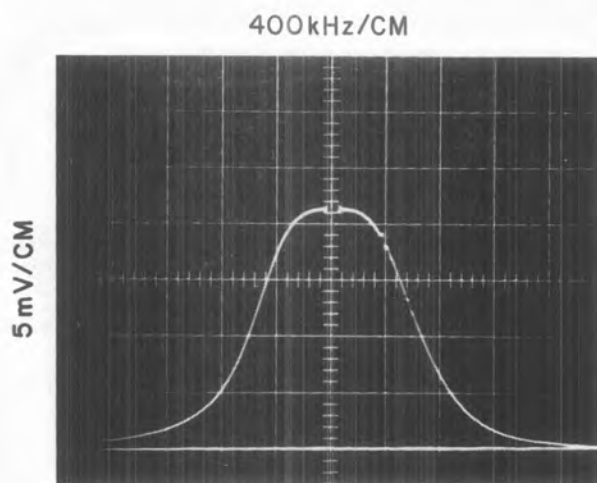

Figure 4-6. Typical 80 MHz Response Curve
- (3) Tune the receiver to 80 MHz; the frequency counter will read 80 MHz + 10 MHz IF offset = 90 MHz.
- (4) Adjust the signal generator to produce a 80 MHz marker.
- (5) Adjust the sweep generator and oscilloscope to display the response curve.
- (6) Adjust capacitors A2A1C3, A2A2C3, and A2A2C12 for an over-coupled response centered about the 80 MHz marker. A typical 80 MHz response curve is shown in Figure 4-6.
- (7) Check the response across the band. The response shape will vary but the marker should remain on or between the peaks.
- (8) Disconnect the test equipment and restore normal connections.